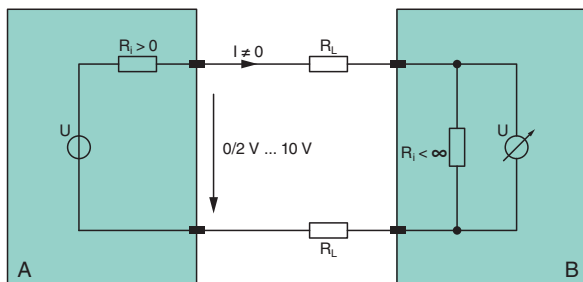

Figure 34 Signal transfer
Figure 34 shows the principal structure of the transfer route with a transmitter (A) that converts a sensor signal into a 0/2 V ... 10 V standard signal and transfers it to the control (B).